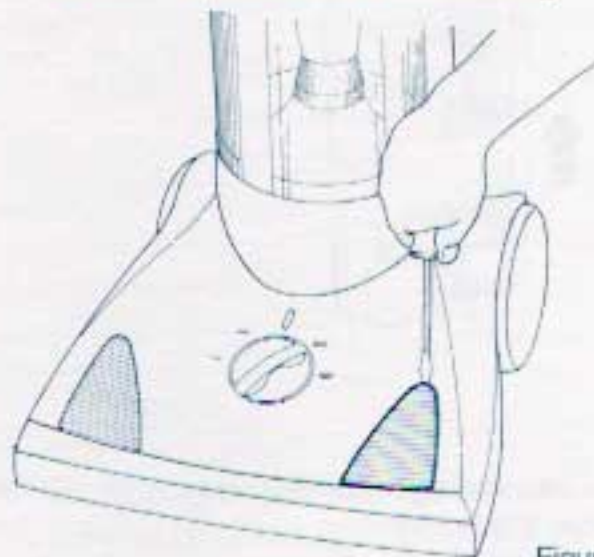

Figure 16
D. REPLACING A HEADLIGHT BULB: (Figure 16)